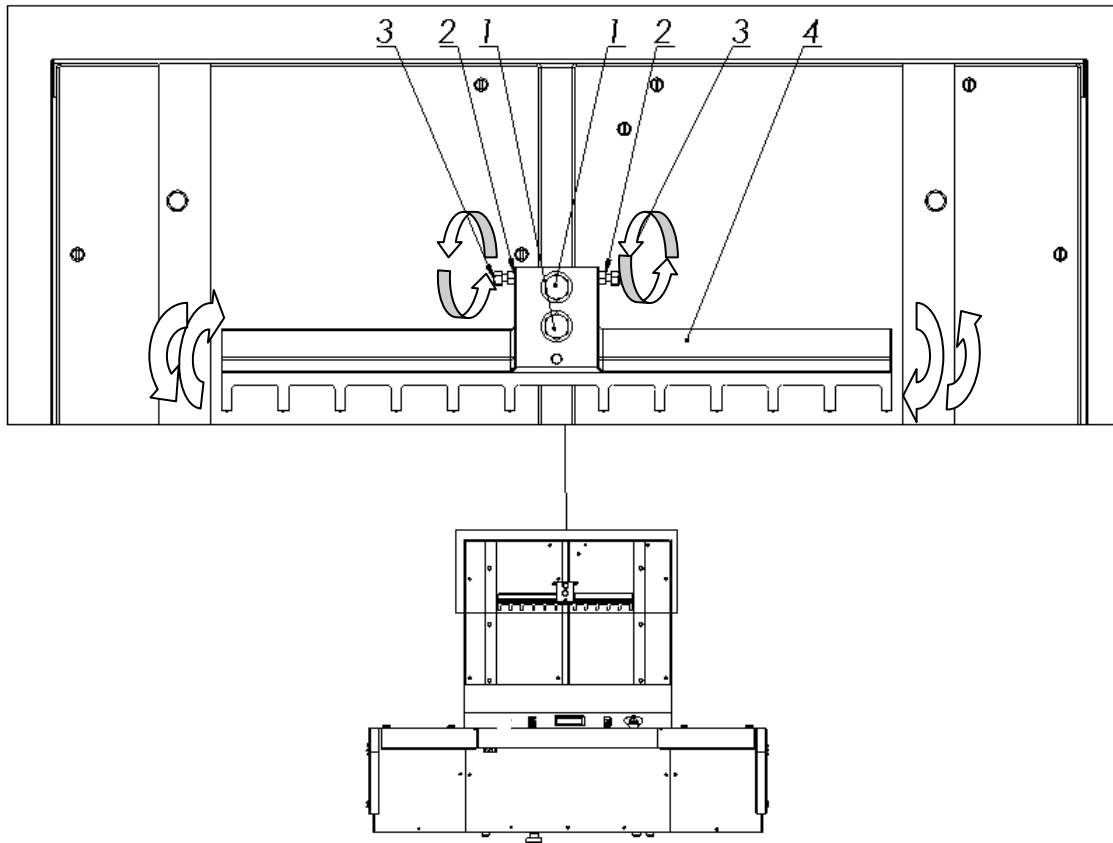

Figure 41. Adjusting the backgauge
- 8.4.3 loosen the screws 1 (fig.41)
- 8.4.4 loosen the nuts 2 (fig.41)
- 8.4.5 by turning the screws 3, place the approaching backgauge 4 (Fig. 41) at the right angle
- 8.4.6 lock the adjustment screws with 3 nuts 2 (fig.41)
- 8.4.7 firmly tighten the screws 1 (fig.41)